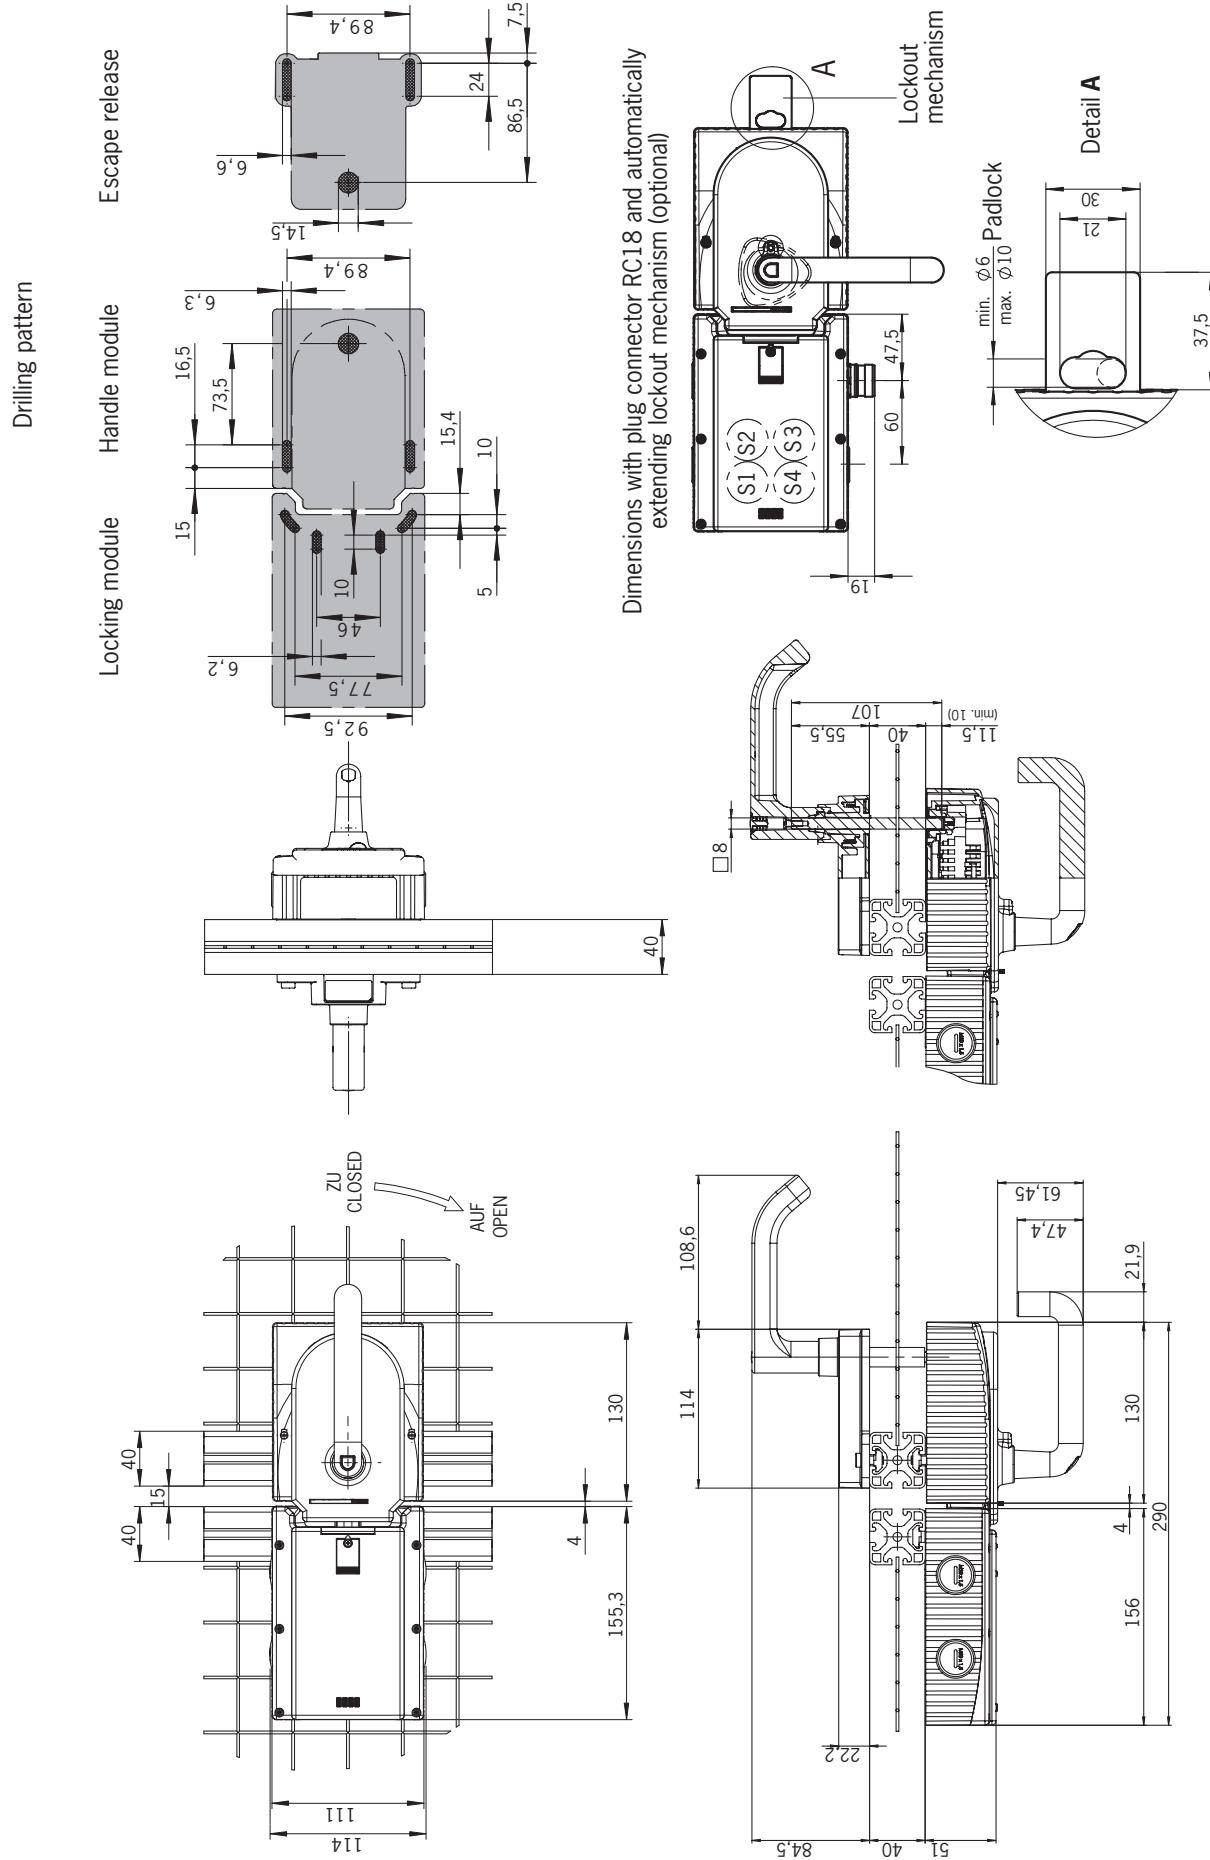

Figure 4: Dimension drawing MGB fitted, without optional mounting plates
- Align escape release axis at right angles to the handle module. See *Figure 4* and *Figure 8*.